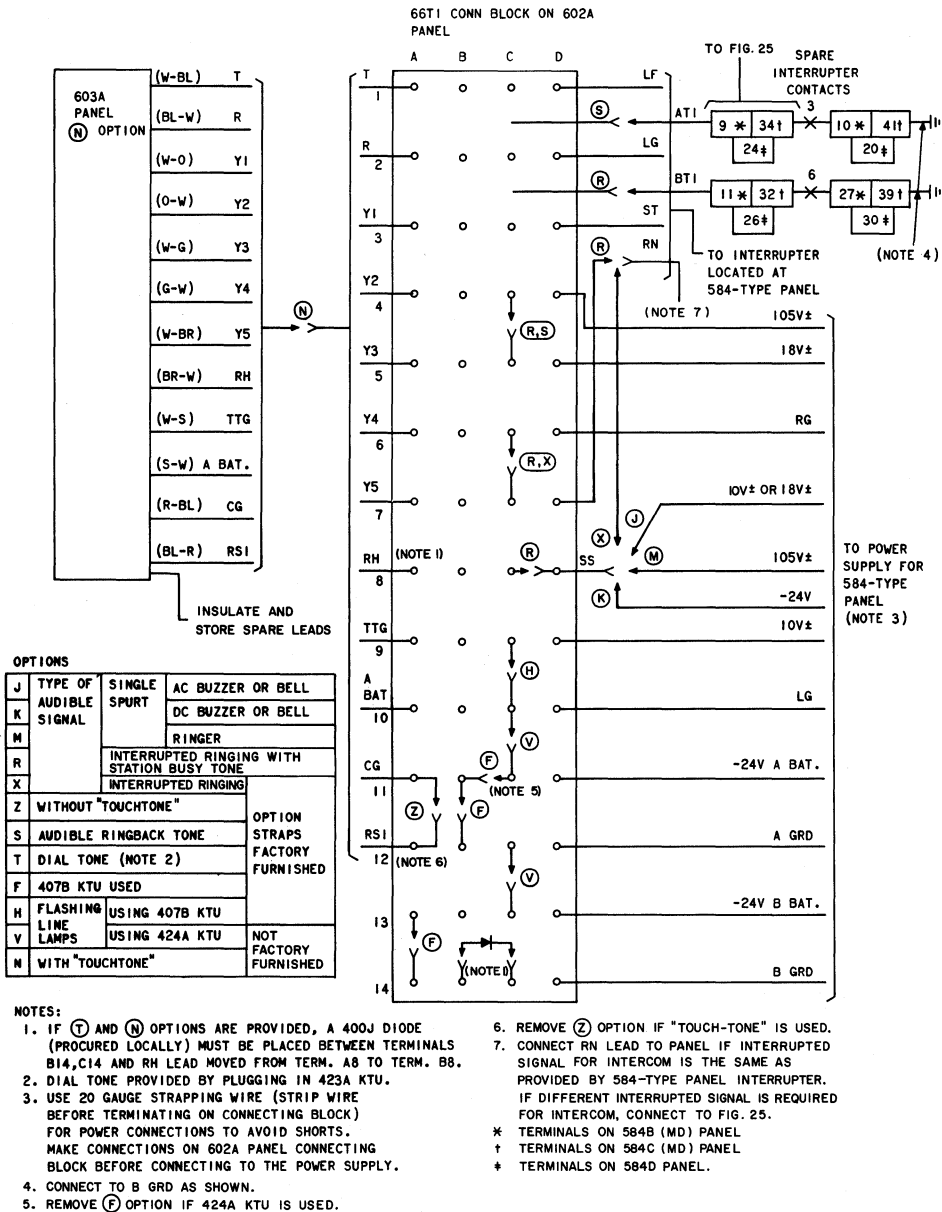

Fig. 23—602A Panel, Connection of Power and Interrupter Leads, Option Strapping, and TOUCH-TONE
6. A 400J DIODE (PROCURE LOCALLY) MUST BE CONNECTED AS SHOWN IN A DIAL-TONE EQUIPPED SELECTOR-ONLY ARRANGEMENT ON 66TI CONNECTING BLOCK. MOVE RH LEAD FROM TERMINAL A8 TO TERMINAL B8. (SEE NOTE 1, FIG. 23.)